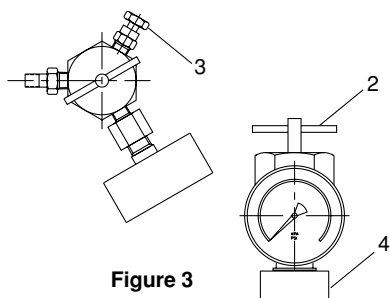

Figure 3
- (A) Remove protective cover from accumulator.
- (B) Refer to Figure 3. Turn the charging device “T” handle (2) all the way in (clockwise) attach charging and gauging head assembly by screwing mounting nut (4) to the gas end of the Diaphragm accumulator.
- (C) Close bleed valve (3).
- (D) Turn “T” handle (2) in counterclockwise motion until rotation stops.
- (E) When finished checking the precharge, turn “T” handle (2) clockwise all the way, then open bleed valve (3) to bleed all residual pressure from the charging device.
- (F) Hold “T” handle (2) to keep from turning, loosen nut (4), remove the assembly from the accumulator.
- (G) Torque the Allen head screw to 14.5 ft-lb + 3 (20 Nm + 9).
- (H) Replace protective cap.
**For accumulators having gas valve as shown in Figure 5,** attach gauging assembly as shown in Figure 3 following Steps A through D. Then, open bleed valve (3) until all gas pre-charge is relieved from accumulator. Then remove gauging assembly. The accumulator is now safe to remove from the system.